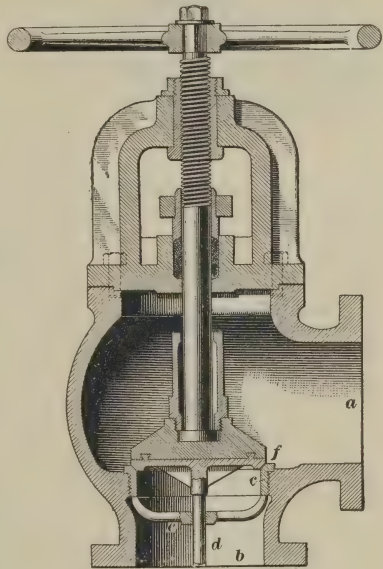

FIG. 70
**108.** Fig. 70 shows, in section, an iron-body flanged angle valve with a globe body. It is made with the outlet *a*
and the valve disk *f* is consequently guided straight to its seat. The valve shown in Fig. 70 is intended for high-pressure work, such as 250 pounds pressure or less, and is tested to 800 pounds pressure by the manufacturer.